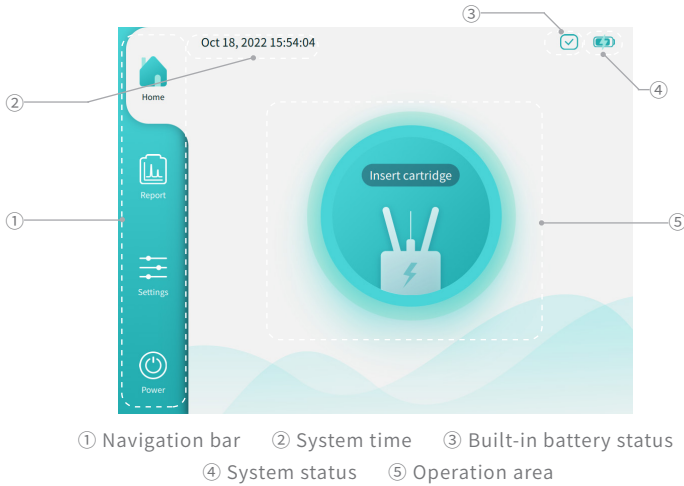

Figure 3.2 Main Screen
4. After the power-on process is completed, remove the dust proof cartridge. At this time, the software will display the Main screen (as shown in Figure 3.2), and the system status is displayed as [√] (upper right corner in Figure 3.2 ④).